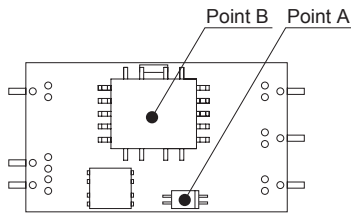

Fig.8.11 Temperature Measuring Points in the case of Forced Air Cooling
(3) Temperature Measuring Points in the case of Forced Air Cooling (1m/s)
① SU6
■ In the case of forced air cooling, please have sufficient ventilation to keep the temperature of point A in Fig.8.11 at 95°C or below and that of Point B at 115°C or below. Please also make sure that the ambient temperature does not exceed 85°C.